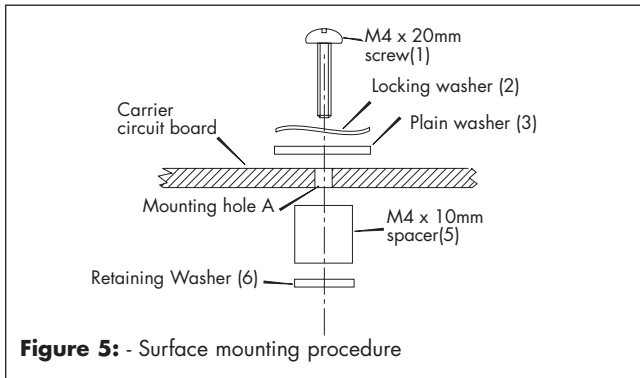

Figure 5: - Surface mounting procedure
- Place a locking washer (2) and a plain washer (3) over each M4 x 20mm screw (1) (figure 5).
- Fit M4 x 10mm spacers (5), retaining them with retaining washers (6) (figure 5).